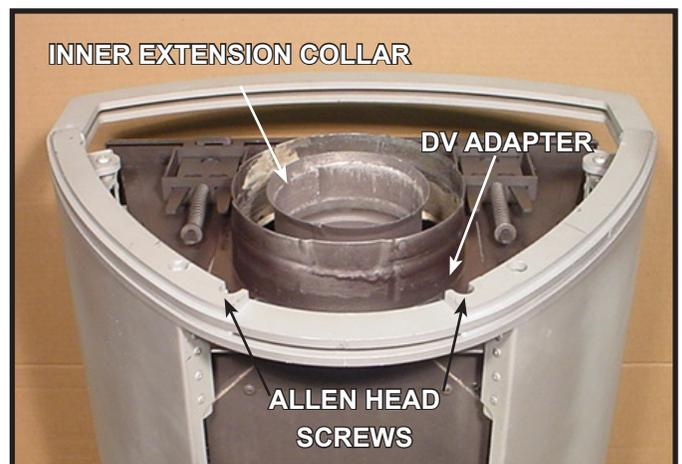

Figure 9.7
4. Remove the inner extension collar (Shown in Figure 9.7) and set aside.
5. Remove the four screws from the DV adapter collar (Figure 9.7). Set aside DV adapter collar and screws.